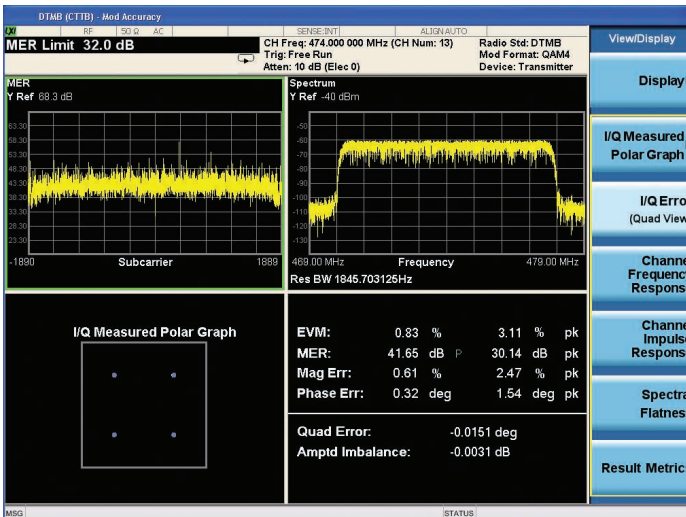

Figure 15. Modulation accuracy measurements with I/Q error view (Quad view)
- **I/Q error** view (Quad view) (Figure 15): This is a four-window view which includes:
Switch to the IQ error view (Figure 15)	[View/Display] {I/Q Error (Quad View)}